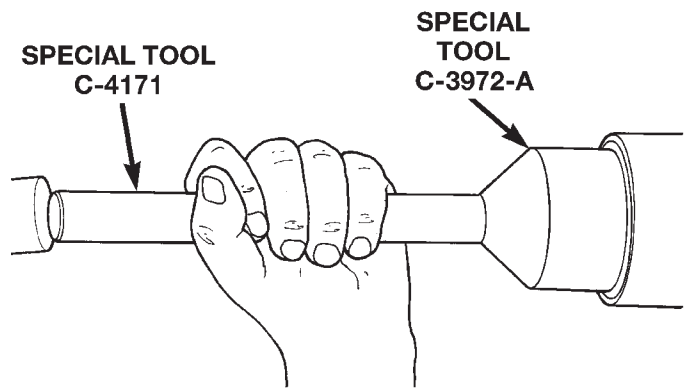

Fig. 21 Pinion Seal Installation
- (3) Install pinion front bearing, if necessary.
- (4) Apply a light coating of gear lubricant on the lip of pinion seal. Install seal with Installer C-3972-A and Handle C-4171 (Fig. 21).